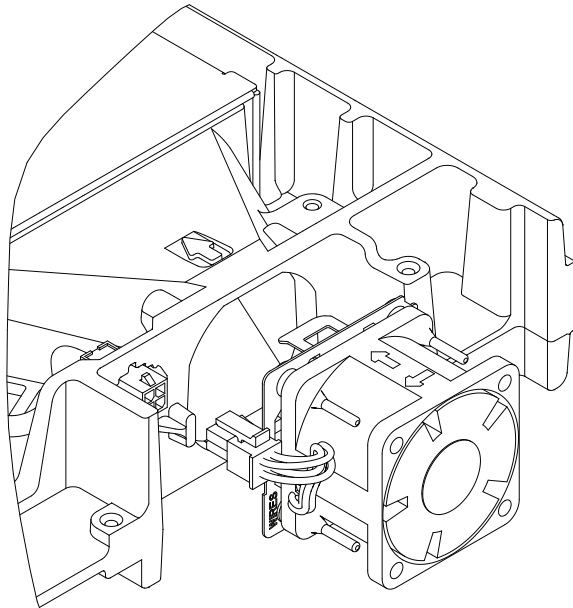

Figure 11-23 Installing Fan
1. Orient the fan module so that the cables are out at the lower left. See Figure 11-23.